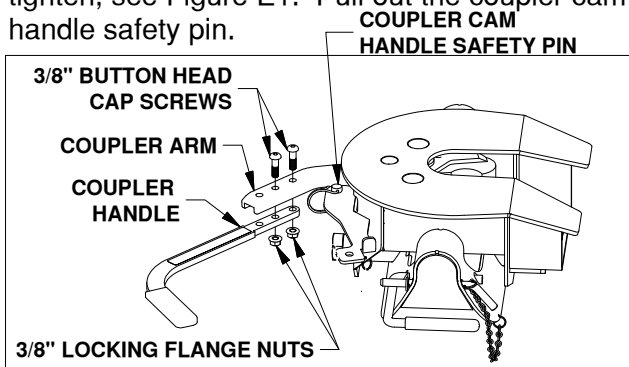

Figure E1: View looking down at side of coupler head.
1. **Open coupler.** Locate the two 3/8" x 1-1/4" button head cap screws and the two 3/8" flanged lock nuts provided in a bolt bag. Pull out the coupler arm and pin it with the safety locking pin near the base of the arm as shown in Figure E1.
2. **Secure handle.** Using the button cap screws and the lock nuts, attach the coupler handle to the arm and tighten, see Figure E1. Pull out the coupler cam handle safety pin.